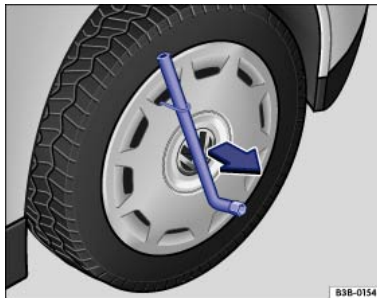

Fig. 242 Removing the wheel covers.
- Push the box spanner through the wire hook \Rightarrow Fig. 242 and remove the wheel cover in the direction of the arrow.